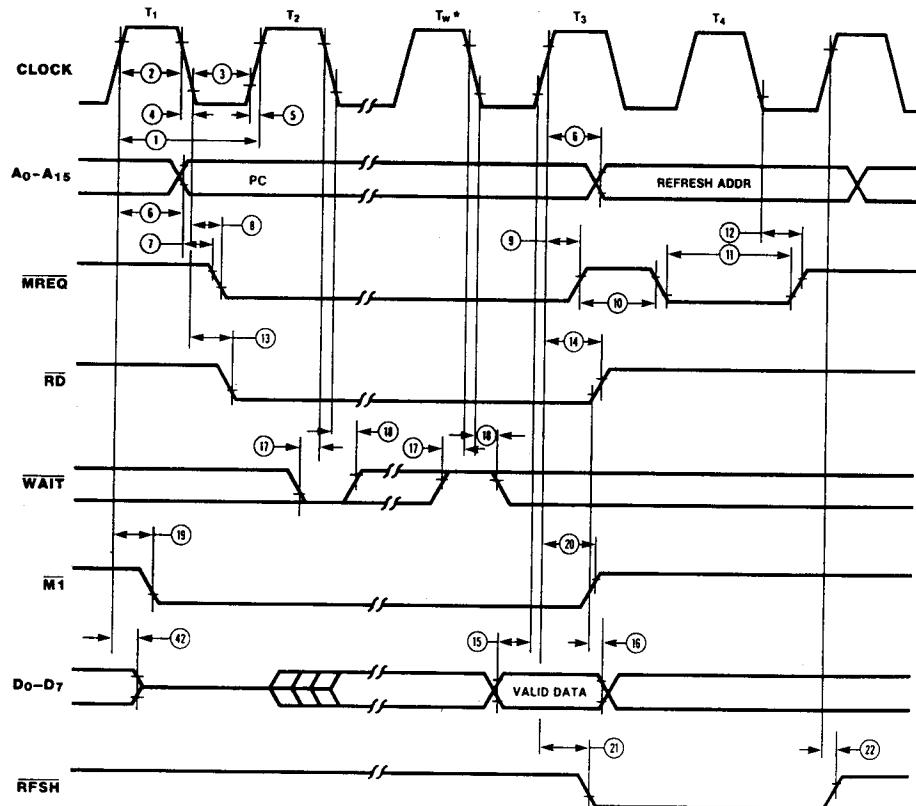

Figure 5. Instruction Opcode Fetch
Instruction Opcode Fetch. The CPU places the contents of the Program Counter (PC) on the address bus at the start of the cycle (Figure 5). Approximately one-half clock cycle later, MREQ goes active. When active, RD indicates that the memory data can be enabled onto the CPU data bus.